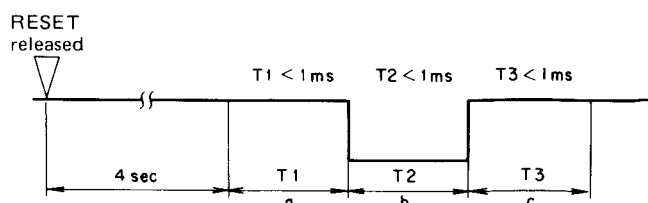

Fig. 12-3-7 Timer sense process timing
- (1) During interval “a” in Figure 12-3-7 below, the deck first checks that no basic transport key,  $\overline{\text{REC MUTE}}$  key, function key, nor auxiliary key has been pressed.
- (2) During interval “b”, the deck checks that the  $\overline{\text{FWD}}$  and  $\overline{\text{REV}}$  keys have been switched to L level together with the TIMER SENSE output.
- (3) During interval “c”, the “a” interval check is repeated.
- (4) Timer operation is not executed if pressing of a key is detected during the “a” or “c” interval.
- (5) If only the  $\overline{\text{FWD}}$  input is L during interval “b”, tape transport is put into forward playback mode if in FWD mode, or into reverse playback if in REV mode.
- (1) Timer recording mode is always started from deck I in conjunction with relay recording mode. The reverse mode selection and relay mode end process conditions are the same as in normal relay recording mode.
- (2) If a key input is detected during the “a” or “c” intervals in Figure 12-3-7, the operation specified by that key is executed instead of the timer operation. If the  $\overline{\text{PAUSE}}$ ,  $\overline{\text{MS}+}$ , or  $\overline{\text{MS}-}$  key has been pressed, however, the deck is returned to stop mode.